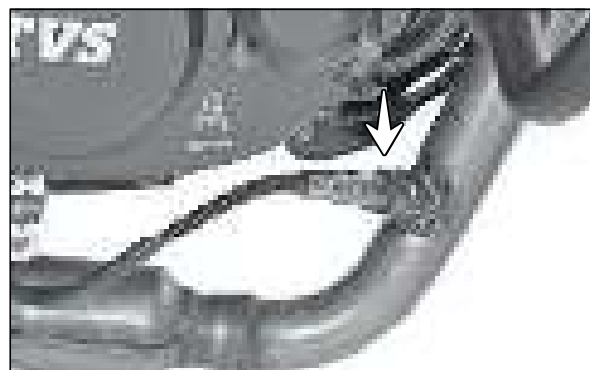

Fig. 5.56
- A O2 sensor is fitted on muffler assembly is used to measure the amount the unburnt fuel coming out the combustion chamber. (Fig. 5.56) Check the resistance of the O2 sensor in the following manner: